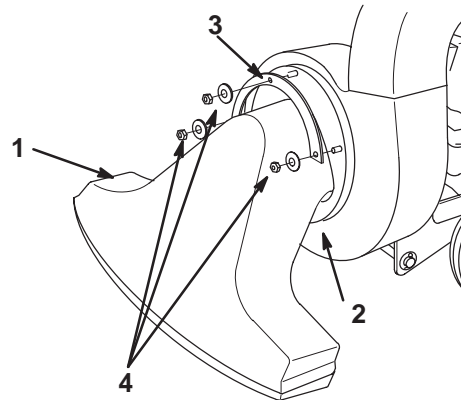

Figure 9
1. Mount the lower edge of the snout flange into the mounting bracket (Fig. 9).
2. Position the retainer flange over the 3 bolt ends protruding through the snout (Fig. 9).
3. Secure the snout and flange to the blower with 3 washers and locknuts (Fig. 9).